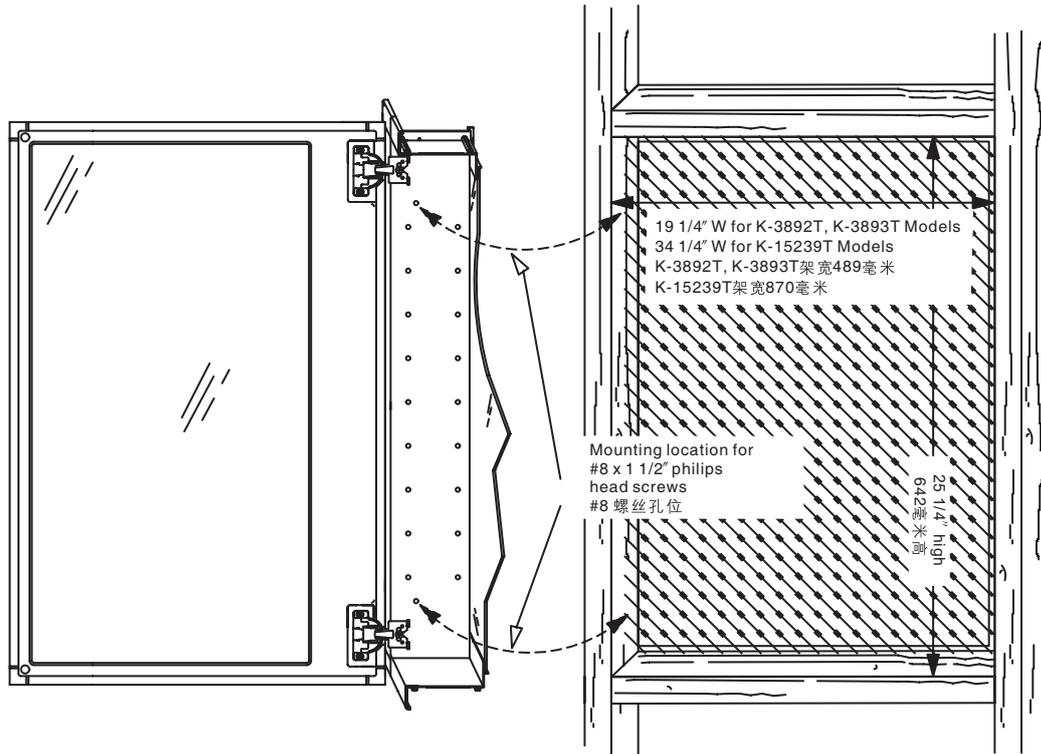

Fig. 1 图1
B. Install screws through holes in cabinet as shown in Fig. 1
B. 按图1所示将螺丝装入浴柜的螺丝孔中。